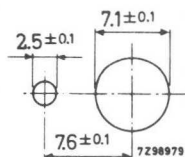

Fig. 4. Mounting holes for potentiometers with mounting bushings.
- Fig. 4 for potentiometers with mounting bushings. The potentiometers can be fixed with the supplied mounting nut. The maximum torque for tightening the nut is 100 Ncm.